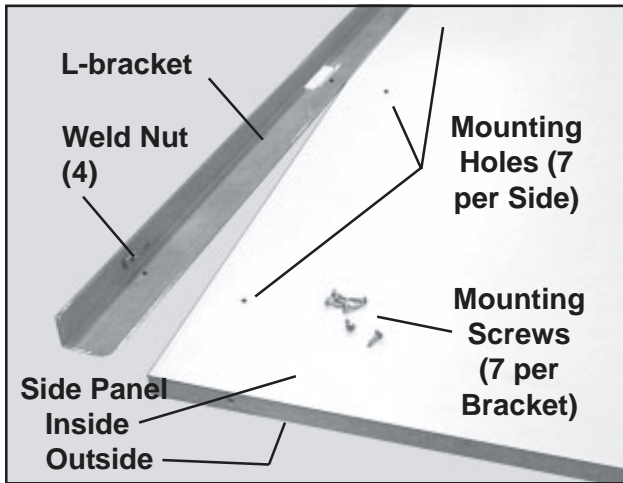

Figure 1. Mounting L-bracket to Chase Side Panel
1. Place a side panel on a smooth horizontal surface with the inside of the panel facing up (Figure 1).